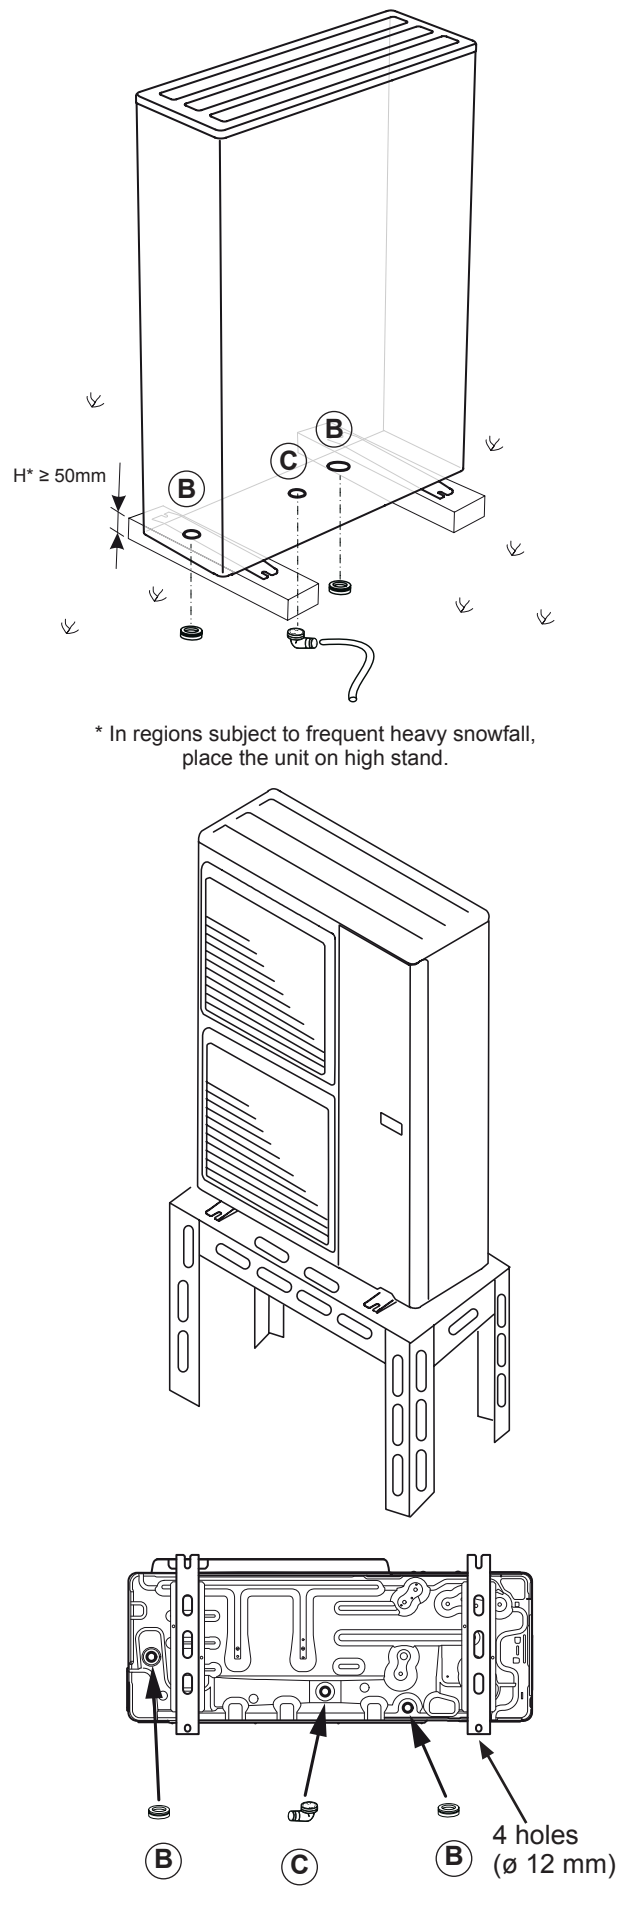

figure 12 - Positioning of the outdoor unit, draining away the condensate
- Water may drain away from the outdoor unit when it is operating. Do not install the appliance on a paved terrace ; choose a well-drained place (e.g. gravel or sand). If the installation is in an area where the temperature can be lower than 0°C for a long period, check that the presence of ice does not present any danger. A drainage pipe can also be connected to the outdoor unit (see figure 12, page 14).
The outdoor unit must be raised at least 50 mm above ground level. In areas prone to snow, this height should be increased but should not exceed 1,5 m (figure 12).
(see figure 12).